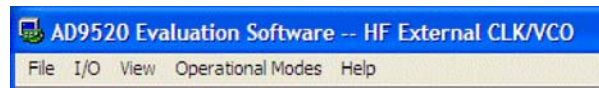

Figure 24. Menu Bar
7. From the **View** menu on the menu bar (see Figure 24), click **Debug**. Click the **I2C Debug** button. The window shown in Figure 29 appears.